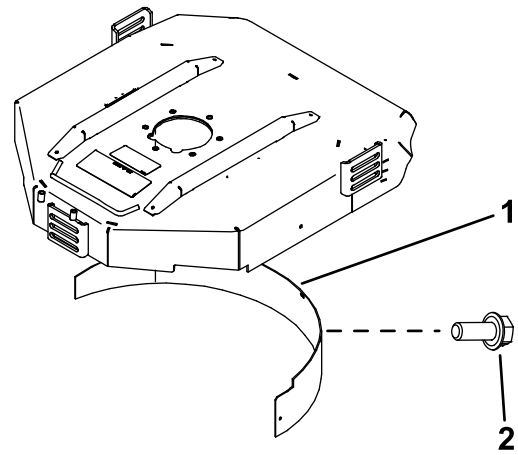

Figure 10
2. Install the mulching baffle in the rear opening and secure it with 5 flange-head bolts (Figure 10).